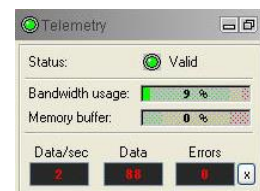

Figure 4-3 Telemetry panel
7. **During logging** observe the controls in the **Telemetry** panel (Figure 4-3):